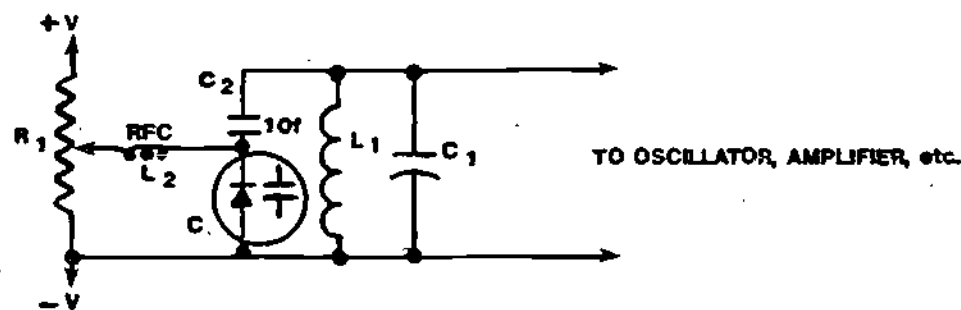

Figure 23
- (25.) Let's place a varactor diode into a circuit to see how it functions. A common application for the varactor is to function as a variable tuning capacitor in the tank circuits of receivers and transmitters. An example is shown in Figure 23.